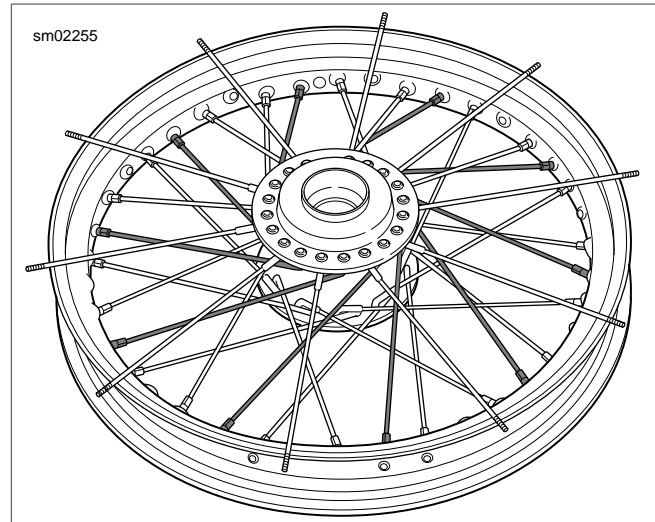

Figure 2-40. Completed Spokes: Top Flange Inner
- b. See Figure 2-40. Once you have completed the top flange of inner spokes (long head) double check for one empty hole after every third spoke.